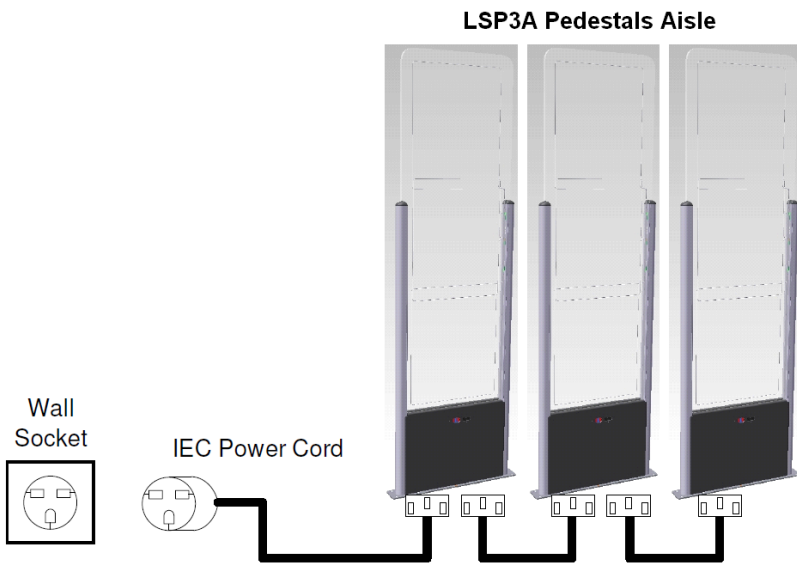

Figure 4.1: Safety Electrical Installation Using Power Cord
Figure 4.1 here below shows how to connect the LSP3A pedestals to the mains.
8. Once all the LSP3A pedestal have been installed, close the micro circuit-breaker (Figure 4.1) to power up the system before starting configuration operations. Please see section 5 “Configuration”.